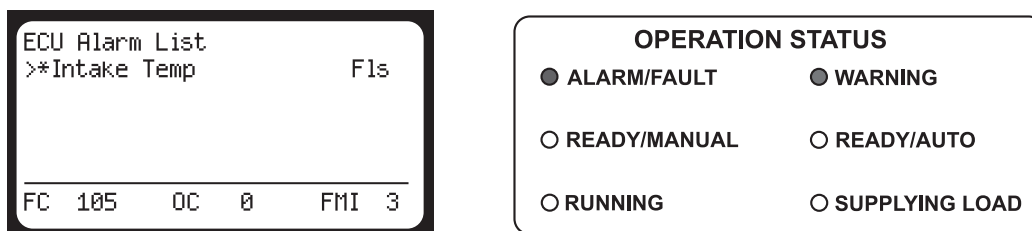

FIGURE 1
Press the “▲” Scroll-Up button (on the diagnostic keypad) to view the “ECU Alarm List.” This will allow the operator to view a description of the fault, along with the diagnostic trouble codes located at the bottom of the display (see FIGURE 1). To further identify a fault by using these codes, refer to the John Deere Operators Manual supplied with the unit. To resume operation, the fault condition must be resolved and the code cleared from the display.
***Note:** The Suspect Parameter Number (SPN) is displayed as “FC” on the bottom left of the LCD window. See FIGURE 1.